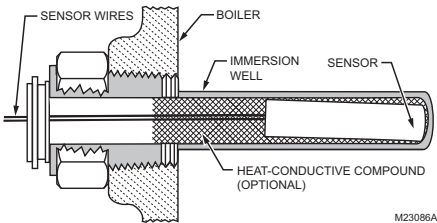

Fig. 8. Immersion well fitting for sensor.
The remote upper temperature sensor is installed in an immersion well (Fig. 8) that extends into the supply water side of the boiler.
6. With mounting clamp attached to well spud (make sure jaws of clamp hook over ridge at end of spud, as shown at points A in Fig. 8), adjust sensing leadwire to fit through mounting clamp groove, as shown at point B in Fig. 8.